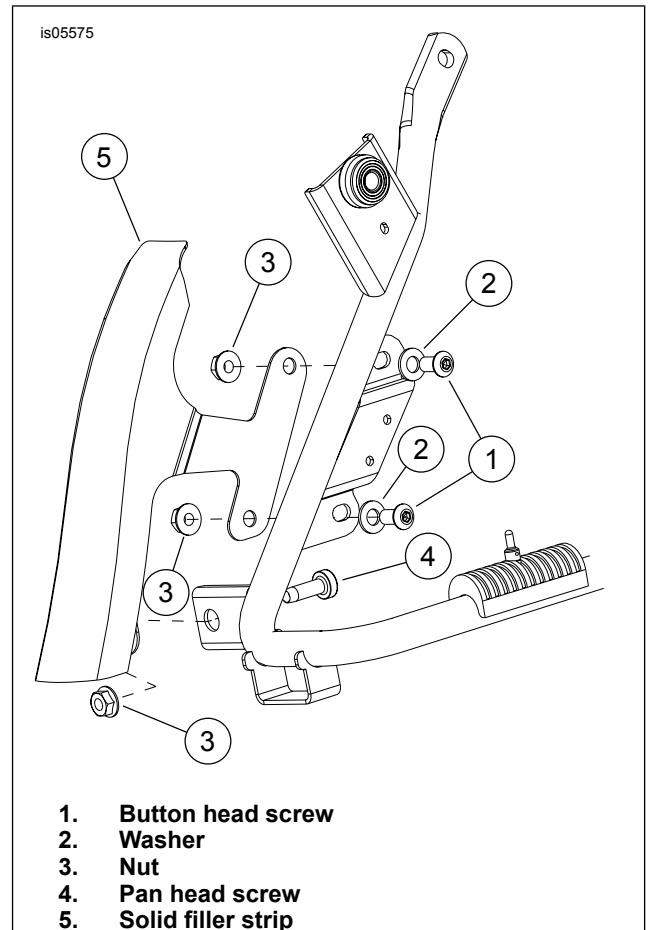

Figure 1. Solid Filler Strip Installation
3. See Figure 1. For solid filler strips align as shown in Figure 1. See Figure 2. For slotted version align as shown in Figure 2 after assembling Nostalgic saddlebag rails.
4. Insert screw (1) and washer (2) into bottom mounting hole in top bracket. Start flange nut (3) onto back side of screw and tighten finger tight.
5. Figure 1. **Solid Filler Strips:** Feed screw (4) through bottom exhaust mounting bracket on the saddlebag support for solid filler strips, note screw orientation. Figure 2. **Slotted Filler Strips:** For slotted version, when used with Nostalgic Saddlebag Rails, reuse the bottom mounting hardware supplied with the rails.
7. See Figure 1. Start flange locking nut (3) onto screw and tighten until finger tight.
8. Insert final mounting screw (1) into the top mounting hole of the top mount bracket and tighten finger tight.